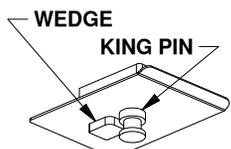
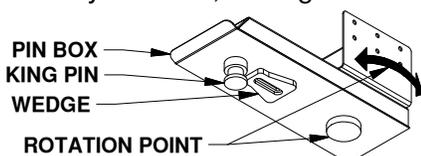

FIGURE F1: Capture plate.
FIGURE F2: pin box with rotation point.
**WARNING:** Towing a trailer without a functioning pivot point between the hitch & trailer will cause significant damage to the hitch which may lead to serious injury or death. Some pin boxes such as a Pull-rite® Superglide Capture Plate remove the pivot point between a trailer and coupler and should not be used, See figure F1. Pin boxes with a wedge that relocates the pivot point such as a Reese® Sidewinder or Reese® Revolution may be used, see figure F2.